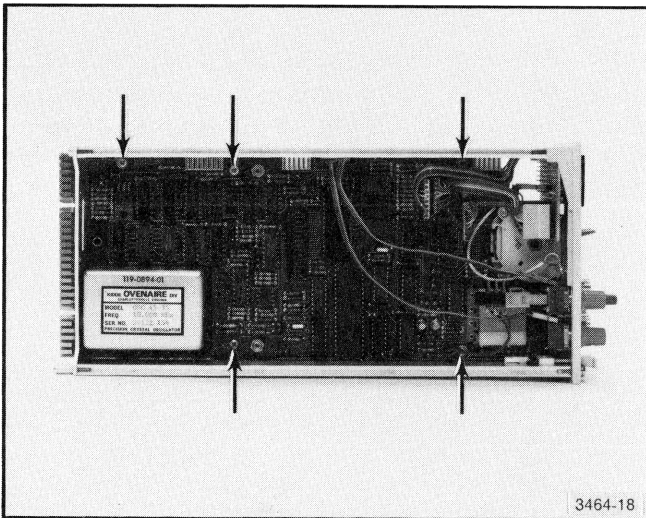

Fig. 5-2. Screw locations for digital circuit board removal.
6. Remove the five screws that secure the digital board to the analog board. (See Fig. 5-2.)